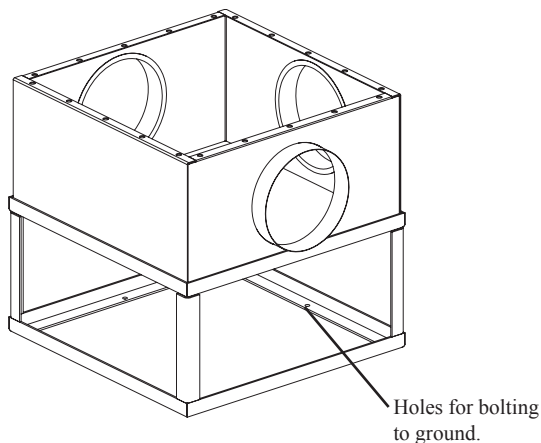

Fig. 1
5. Bolt the air cleaner to the floor in its final location using the provided holes in the floor stand (Fig 1).